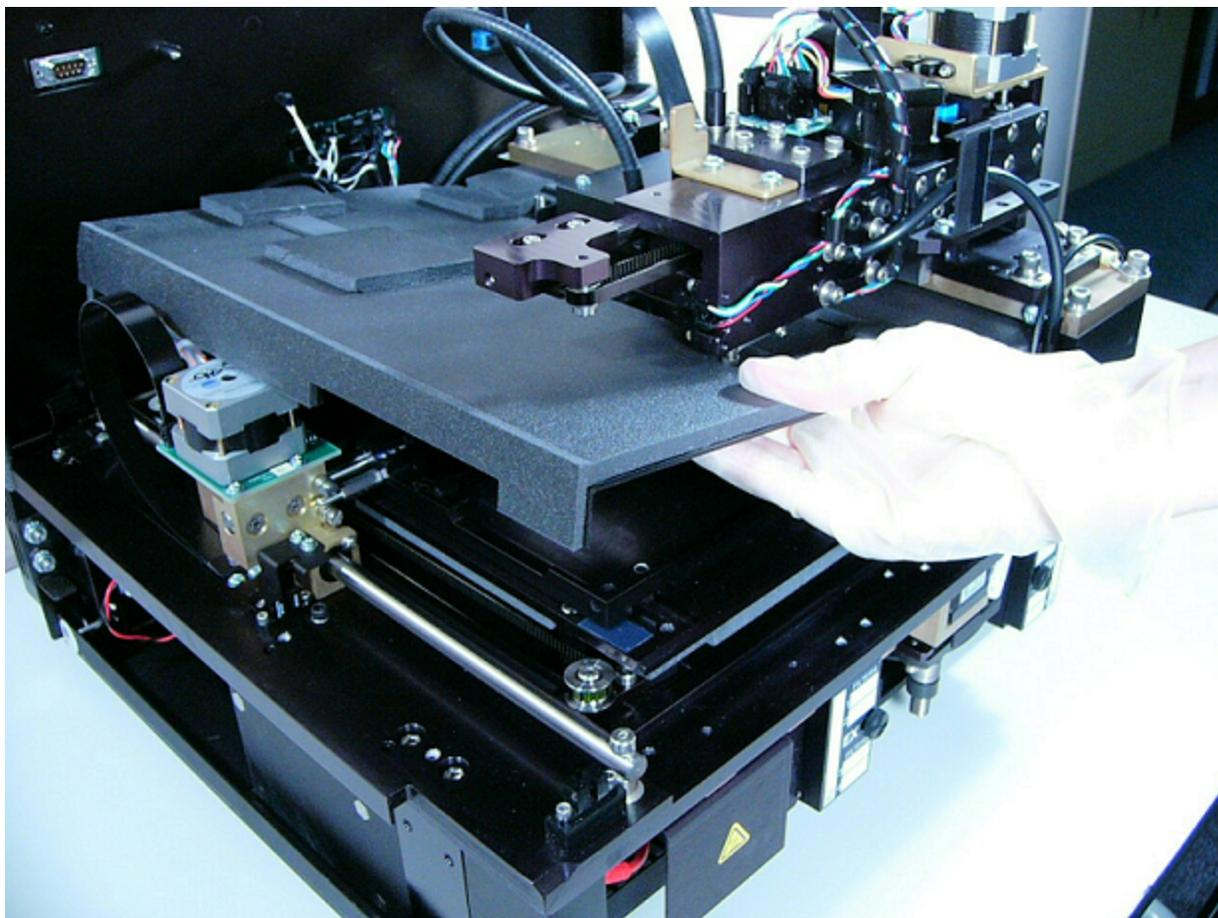

Figure 5-10: Removing the incubator housing
5. Lift the left side of the incubator housing and carefully slide it out (see Figure 5-10).